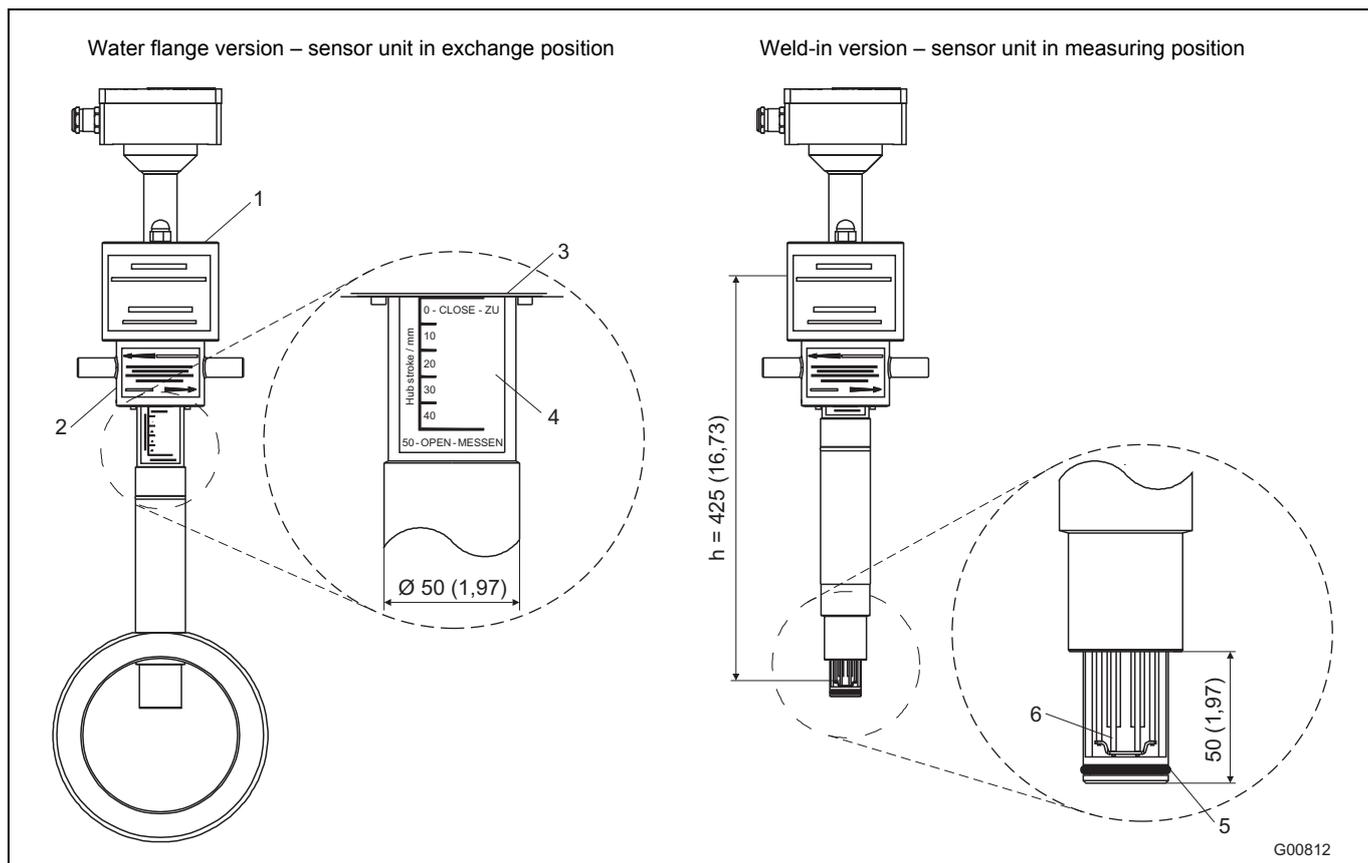
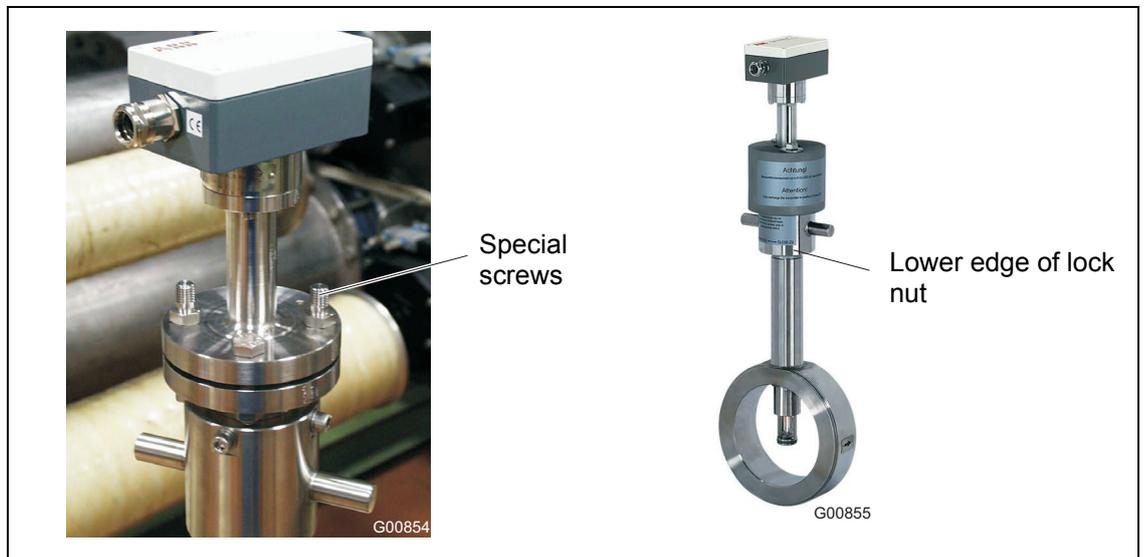

Fig. 9: Dimensions in mm (inch)
Fig. 14: Special screws for dust caps
The hot tap fitting is designed for pressure loads of max. 16 bar abs. To ensure interchangeability with standard pipe components (type 1), the wafer version (Fig. 11) has been developed for DN 50 and DN 80 DIN flanges with a pressure stage of PN 40. In the case of the DN 65 version with a pressure stage of PN 16, you should use connection flanges with 4 screw holes. Imperial versions 2 ... 8" designed for connection flange ASME B16.5 Cl.150 only. For suitable flowmeter sensor lengths, see Fig. 9.
- Insert the transmitter in the hot tap fitting and secure with screws (two M12 screws and two extended special screws, installed opposite each other (Fig. 14)).
- Install the dust caps and use nuts to attach them to the special screws (Fig. 14).
- Rotate the transmitter into the measuring position using the lock nut (Fig. 14). The lower edge of the lock nut indicates the position of the measuring element. When you reach the measuring position 50 – OPEN – MESSEN (lower limit stop of lock nut), the measuring elements are in the middle of the pipeline and it is only at this point that accurate values can be provided (see detail A in Fig. 9).
- Using the lock nut, rotate the hot tap fitting into the disassembly position. (Upper limit stop of lock nut, with lettering 0 - CLOSE - ZU must be visible; see detail A in Fig. 9).